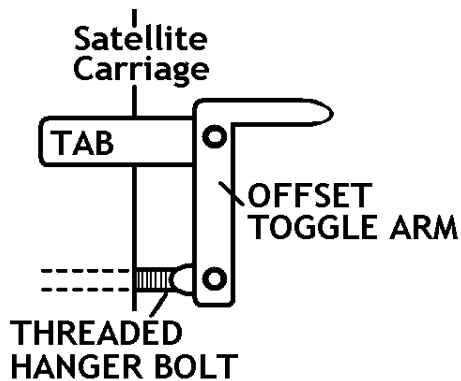

Figure 26 - Satellite-Carriage End of Reversing Mechanism
52 Screw threaded hanger bolt from parts sack into threaded hole on reversing rod end closest to bin wall until bolt holes on threaded hanger bolt and toggle arm align. **Figure 26.**
- 53 Bolt threaded hanger bolt (now screwed into reversing rod) to toggle arm using a 5/16" shoulder bolt and 1/4" locking nut. Ensure reversing mechanism is still in centered position; toggle arm should still be parallel to edge of carriage. **Figure 26.**